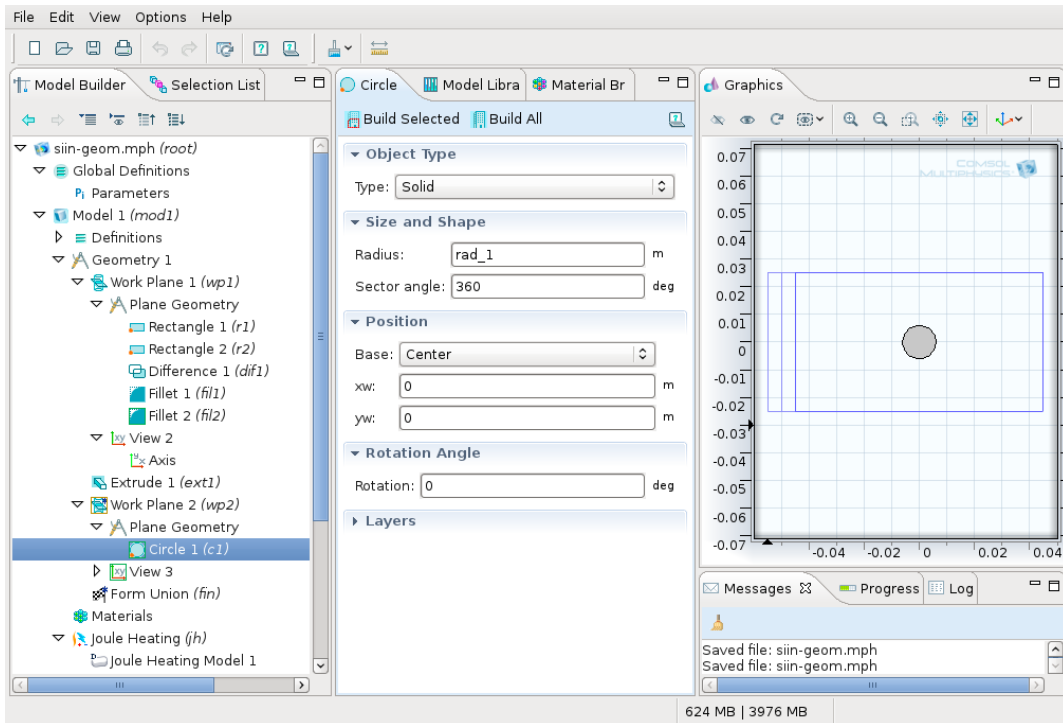

Figure 22: Drawing the polt on the work plane.
- **Work Plane 2** → **Plane Geometry: right button** → **Circle**. Parameters of the circle (Fig. 22):